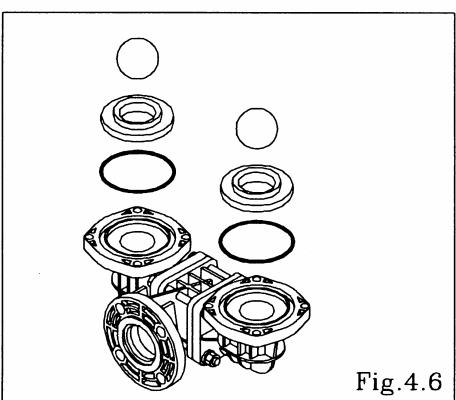

Fig.4.6
- Remove the ball, valve seat and O ring. [Fig.4.6]